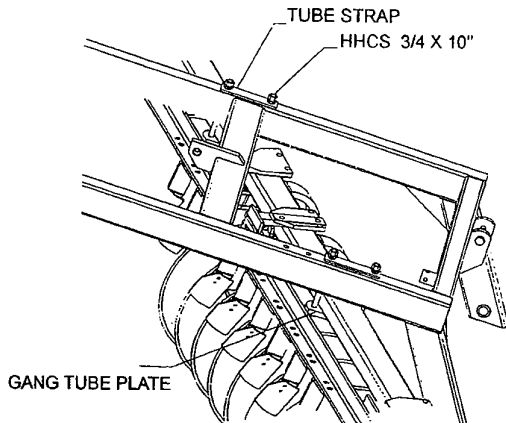

Figure 2 Mounting Gangs to Frames
6) As shown in Figure 2, use 3/4” x 10” bolts through the hole pairs in the left side of the